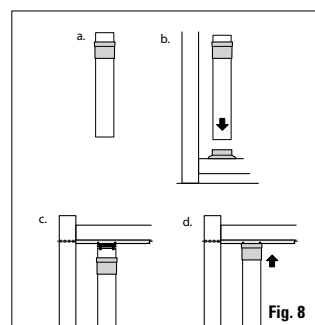

Fig. 8
e. Slide the Top Collar up the baluster until it snaps onto the Top Connector. (Fig. 8)
- b. Insert joiner/pierce connector (T3) end of baluster into top connector and push firmly to pierce the wire. Secure to top connector by sliding threaded collar up to mate with threaded end of top connector. (Figure 8)